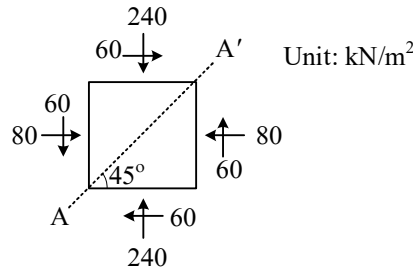

Figure 4-1
(1) The stress state at a certain point in the ground is given in Figure 4-1.